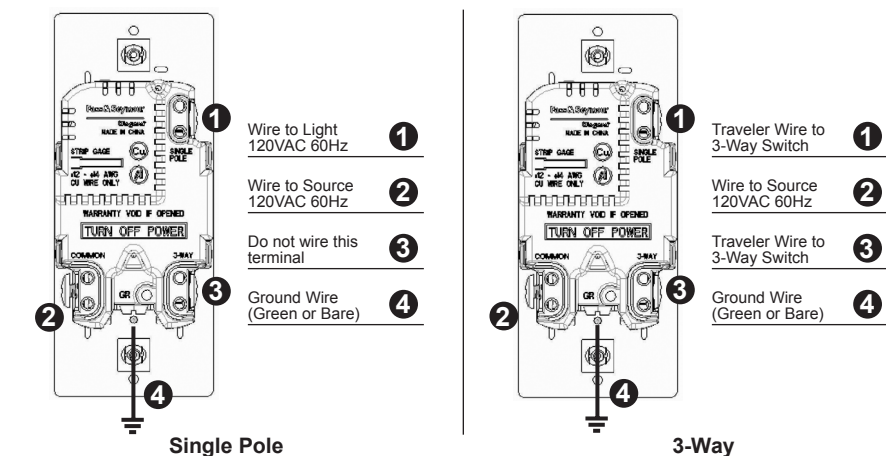

Figure 1
- Connect dimmer as shown in the installation diagram using #12 or #14 AWG stranded or solid copper conductors. Strip wire using gauge on back of device. (Figure 1)